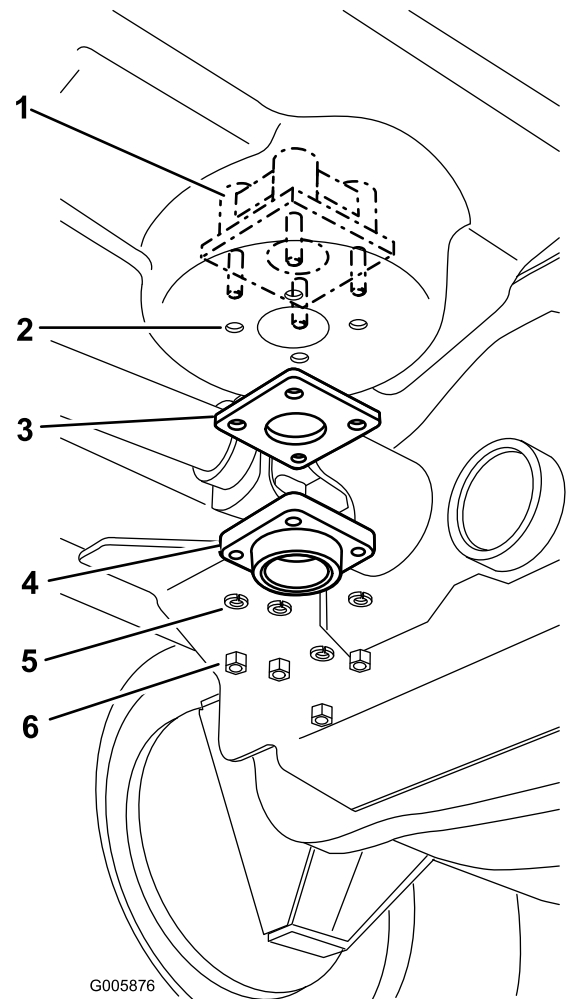

Figure 48
8. Drop the new drain base into the tank and move it into position over the drain hole and new drilled holes (Figure 48).
9. Bring the threaded posts down through the drilled holes. Install the rubber seals over the posts (Figure 48).
10. Install the cover over the rubber seal and posts (Figure 48). Secure the cover with four lock washers (1/4 inch) and four lock nuts (1/4 inch).